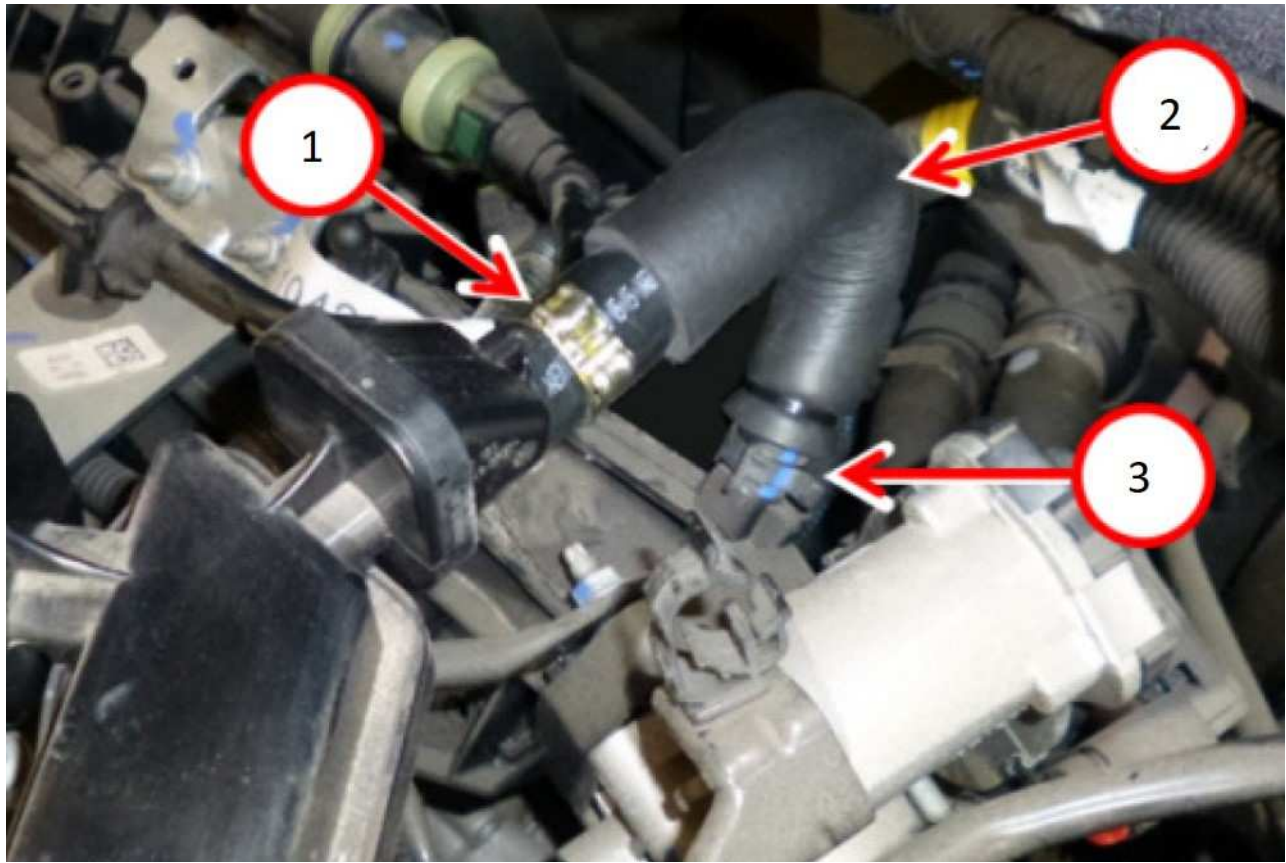

Fig. 5
9. Install the new engine oil vapor inlet tube with restrictor as follows (Fig. 5) :
- Install the tube to the intake air chamber and secure it with the clamp that was previously removed and saved (Fig. 5) .
- Install the tube to the oil vapor separator and secure it with the new clamp (Fig. 5) .